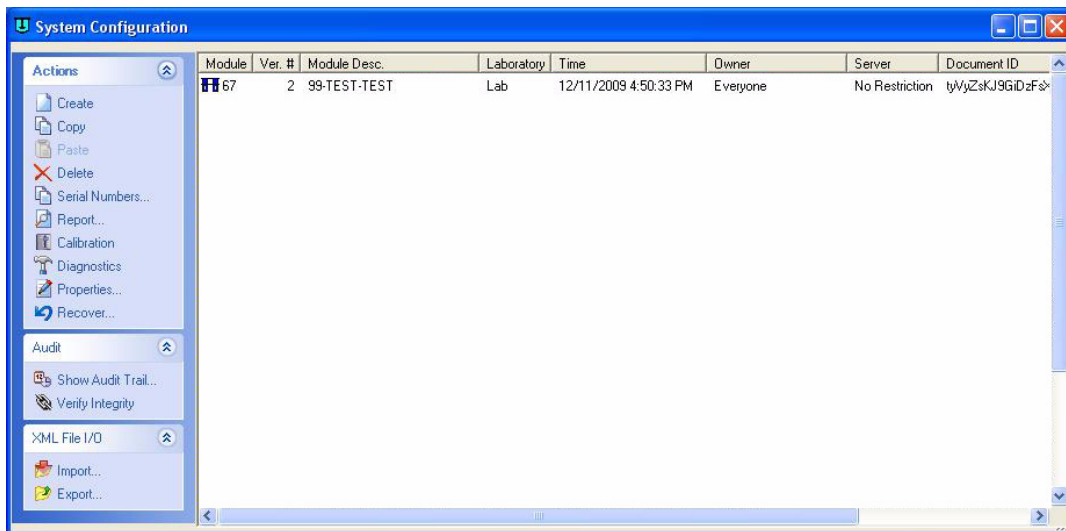

Figure 15 System Configuration screen
- 1 From the navigation bar, click **Configuration**. The System Configuration screen displays (see Figure 15, “System Configuration screen,” on page 49).